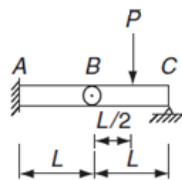

Figure 17 Question 30.
30. A beam is made up of two identical bars AB and BC by hinging them together at B (Figure 17). The end A is built-in (cantilevered) and end C is simply supported. With the load P acting as shown, the bending moment at A is: